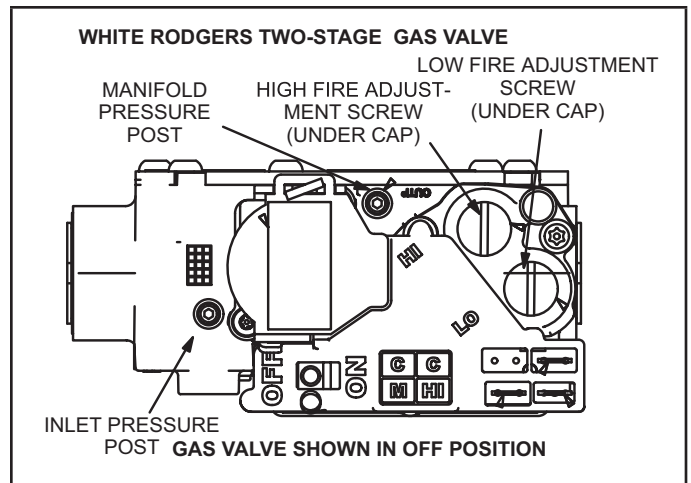

FIGURE 7
An inlet pressure post located on the gas valve provides access to the supply pressure. See figure 7. Back out the 3/32 hex screw one turn, connect a piece of 5/16 tubing and connect to a manometer to measure supply pressure. See table 3 for supply line pressure.
A manifold pressure post located on the gas valve provides access to the manifold pressure. See figure 7. Back out the 3/32 hex screw one turn, connect a piece of 5/16 tubing and connect to a manometer to measure manifold pressure.
- 4 - After allowing unit to stabilize for 5 minutes, record low fire manifold pressure and compare to value given in table 3. If necessary, make adjustment. Figure 7 shows location of low fire adjustment screw.
- 5 - Repeat on high fire and compare to value given in table 3. If necessary, make adjustment. Figure 7 shows location of high fire adjustment screw.